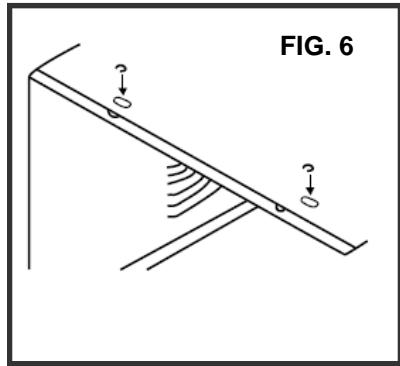

FIG. 6
6. Remove the shipping screws from the top of the unit and the sides of the cabinet if installed (FIG 6 & 7).